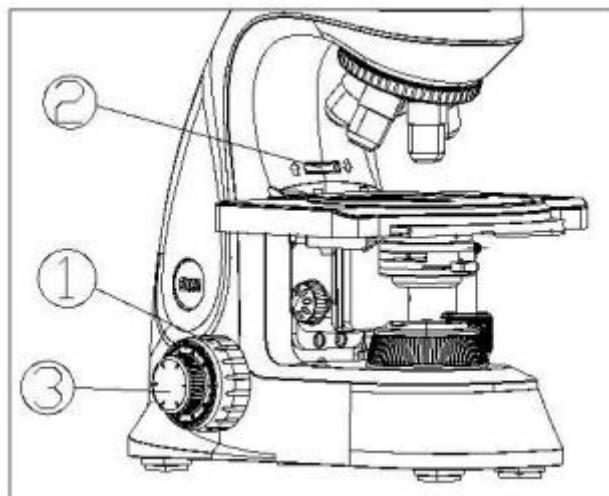

Figure 26
2. Rotate the position screw ② to the top. Observe through the right eyepiece with your right eye and rotate the coarse focusing knob ① until the specimen outline appears in the field of view (see Fig. 26).